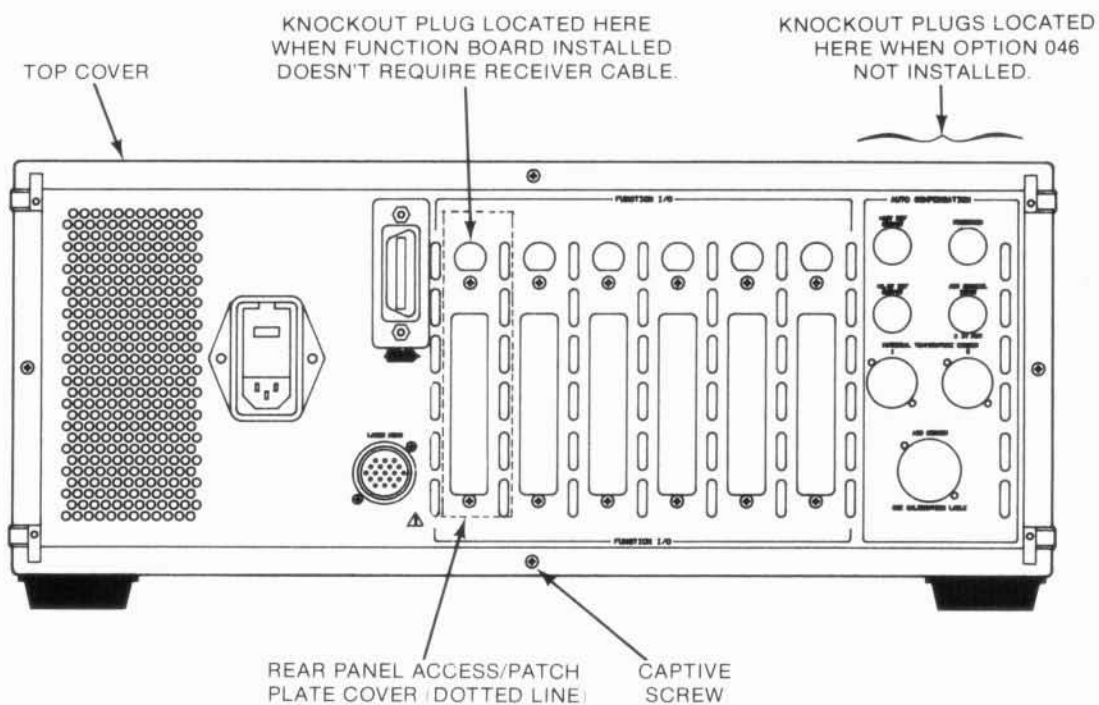

Figure 6-1. HP 5507A Rear Panel, Knockout and Access Plates
1. Remove the top cover which is held in place by a captive screw (*Figure 6-1*) at rear of instrument.